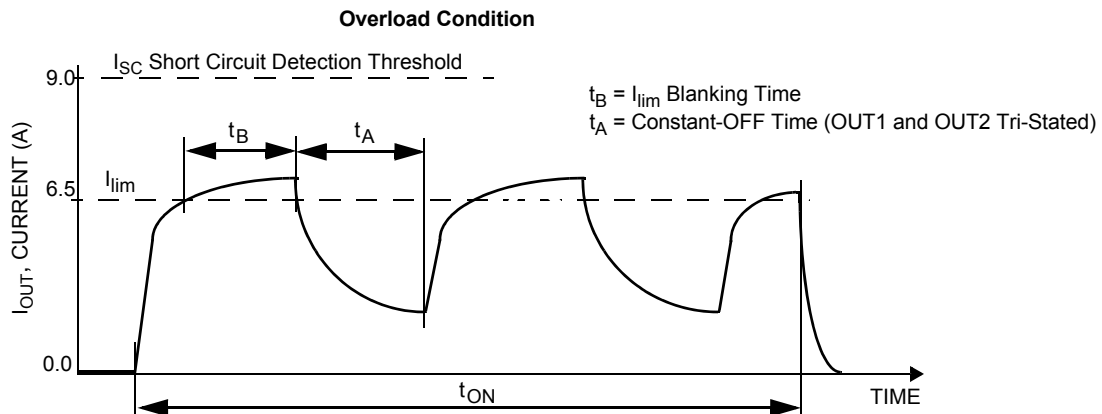
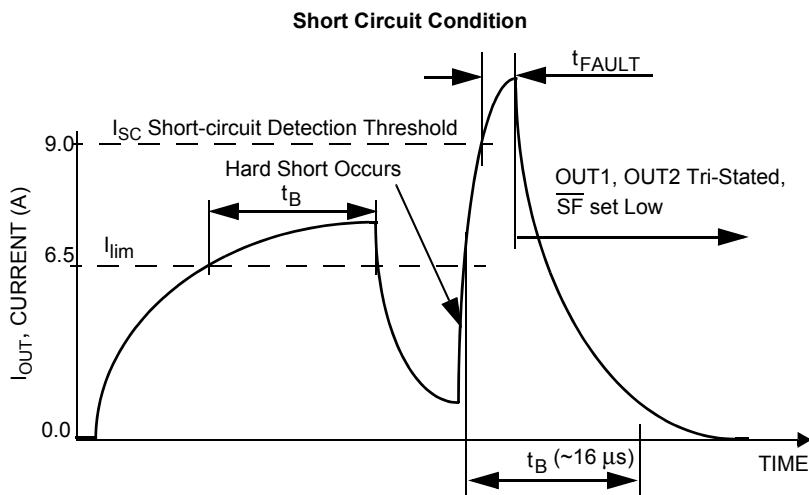
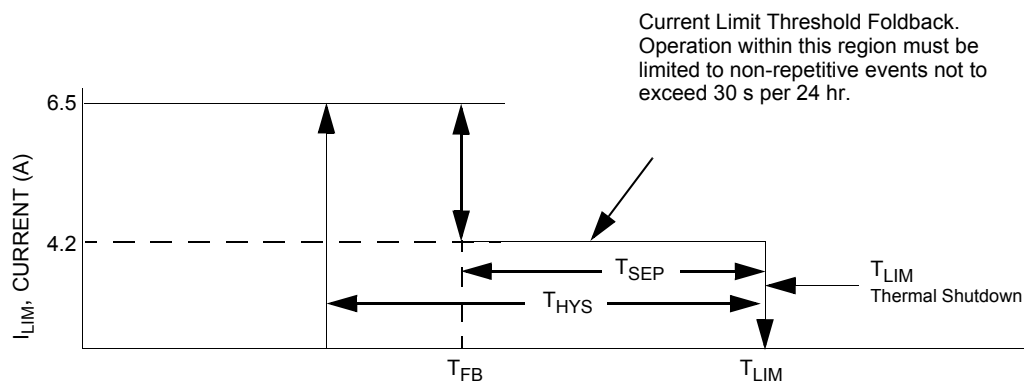

Figure 7. Current Limit Blanking Time and Constant-OFF Time
Figure 8. Short-circuit Detection Turn-OFF Time t_{FAULT}
Figure 9. Output Current Limiting Foldback Region
27. Load currents ramping up to the current regulation threshold become limited at the I_{LIM} value (see Figure 7). The short-circuit currents possess a di/dt that ramps up to the I_{SCH} or I_{SCL} threshold during the I_{LIM} blanking time, registering as a short-circuit event detection and causing the shutdown circuitry to force the output into an immediate tri-state latch-OFF (see Figure 8). Operation in Current Limit mode may cause junction temperatures to rise. Junction temperatures above $\sim 160^{\circ}\text{C}$ will cause the output current limit threshold to “fold back”, or decrease, until $\sim 175^{\circ}\text{C}$ is reached, after which the T_{LIM} thermal latch-OFF will occur. Permissible operation within this fold back region is limited to non-repetitive transient events of duration not to exceed 30 seconds (see Figure 9).